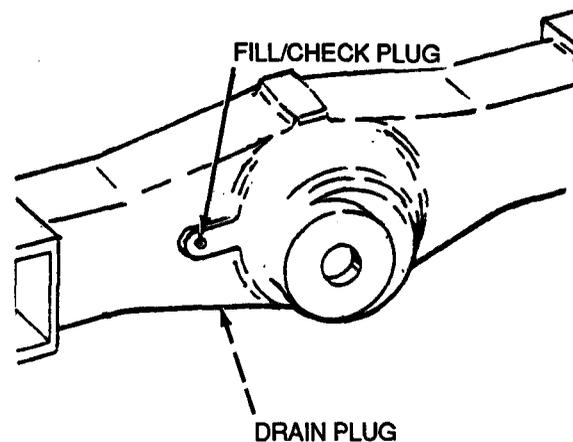

Figure 3-10
3. Remove fill/check plug (Figure 3-10).